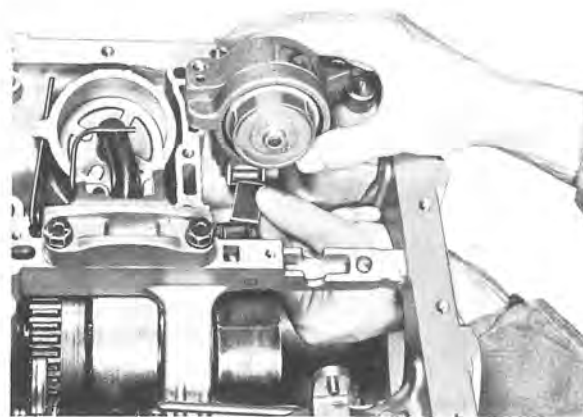

Fig. 4-107. Installing front servo and strut
10. Place the front brake band in position, see Fig. 4-107. Stick the strut to the servo lever with vaseline. Fit the servo. The shorter bolt is fitted at the front. Make sure that the servo strut is correctly engaged with the slot in the brake band. The cam for self-adjustment is fitted later.